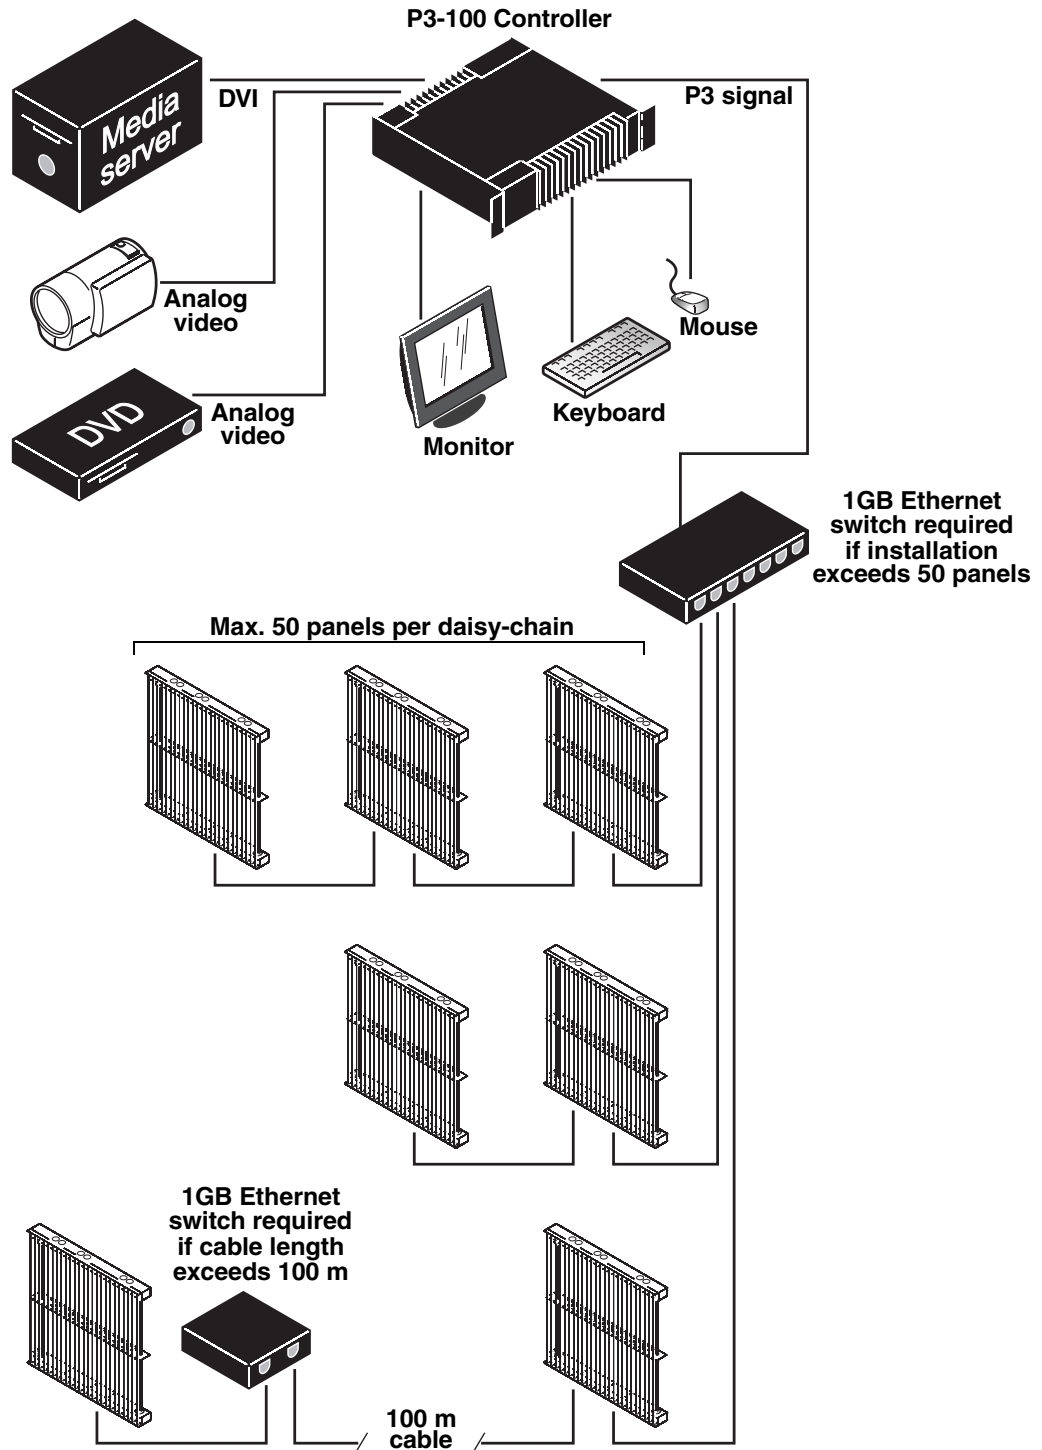

Figure 3: System layout
Figure 3 is given for reference only and shows how an entire system consisting of a P3-100 System Controller and LC Plus panels should be laid out and connected. For full details of panel installation – including important safety information – refer to the LC Plus user documentation supplied with panels and available for download free of charge from www.martin.com
1. Check that the LC Plus panel installation has been safely connected. See Figure 3 for a system layout diagram.